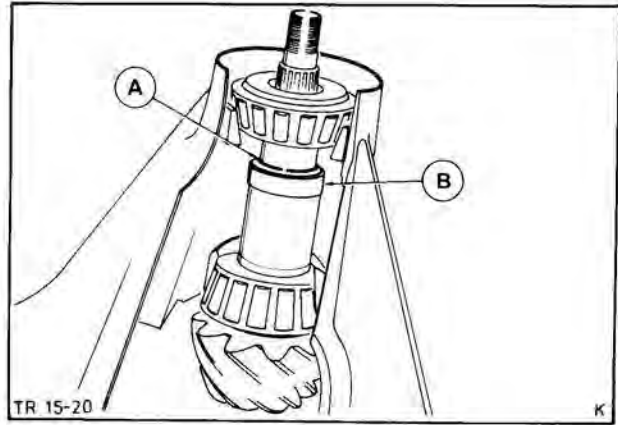

Fig. 45. Determine length of spacer
31. Slip gauge ring over drive pinion. Bend 2 mm diameter soldering wire into a ring of the same diameter as the drive pinion shaft and place it on the Master spacer, Fig. 45.